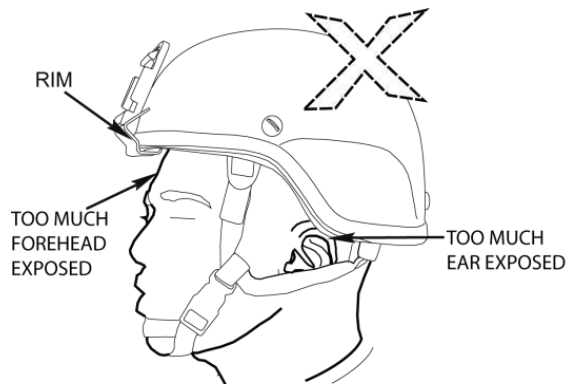

Figure 3. Helmet Too High — Too Much Exposure.
3. Evaluate if there is more than $\frac{1}{2}$ inch of the forehead exposed or if too much or too little of the ear is exposed as shown in Figure 3.